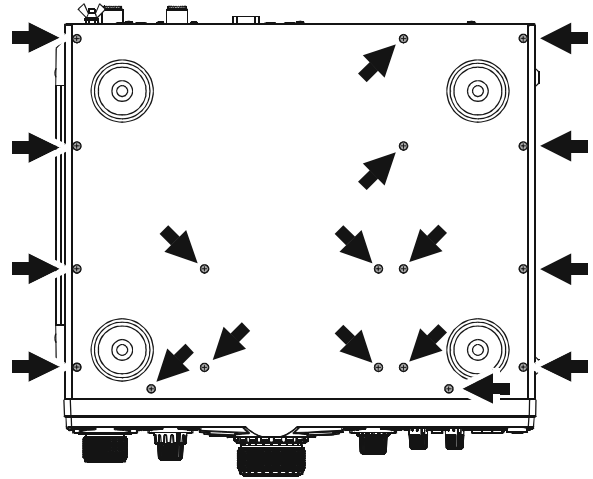

FIGURE 1
3. Referring to Figure 1, remove the 18 screws attaching the bottom case, then remove the bottom case.